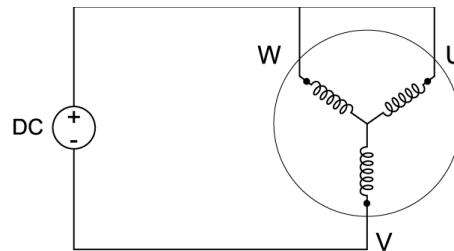

Figure 33. - Hall Connection Diagram
- 1 With the motor’s feedback cable connected to the drive/controller, randomly connect two motor input power wires and slowly apply a positive voltage with respect to the third. See Figure 33 on page 73.
- 2 Remove the motor input power leads, leaving the feedback cable connected to the drive/controller. Connect motor input power wires U and V and slowly apply a positive voltage with respect to W. (See Figure 33).